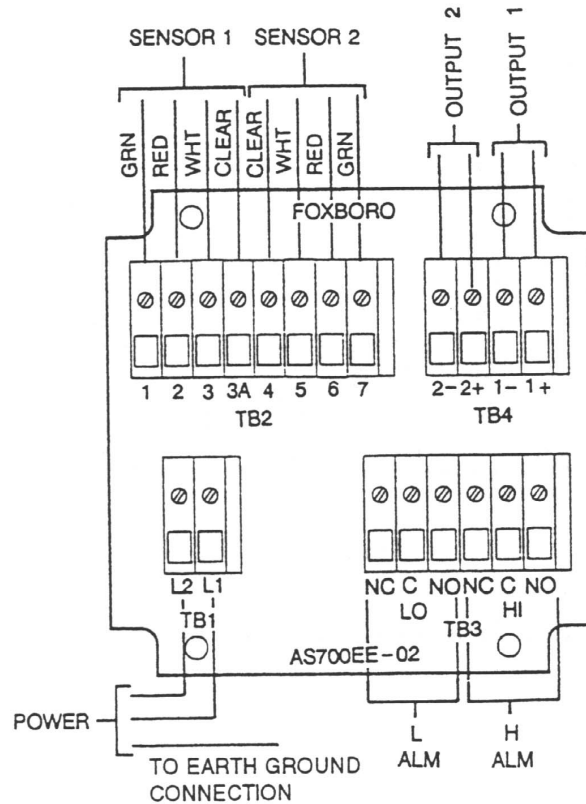

Figure 9. Rear Panel Wiring - Metal Enclosure
2. Connect Hi and Lo Alarm wires to TB3 as shown in Figure 9. Fail-safe operation requires connections to be made between contacts NC and C, and the alarms to be configured active. Refer also to “General Information Alarms”.
4. Connect sensor wires to analyzer terminal block TB2 as shown in Figure 9.
5. Connect power wires to terminal block 1 as indicated in Figure 9. The earth (ground) connection from the power cord should be connected to the stud located in the bottom of the case.